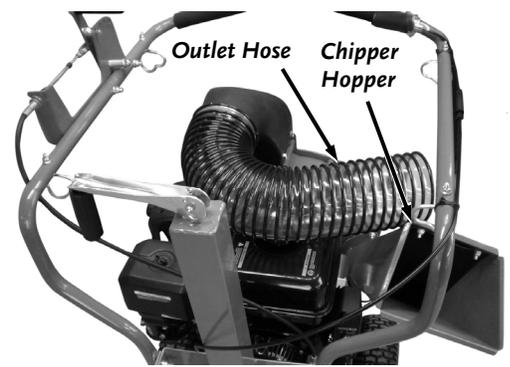

Figure 4
1. PRO MODEL: Position the Outlet Hose out of the way by swinging it behind the Chipper Hopper (**Figure 4**) The Hopper will hold the Hose in this position.